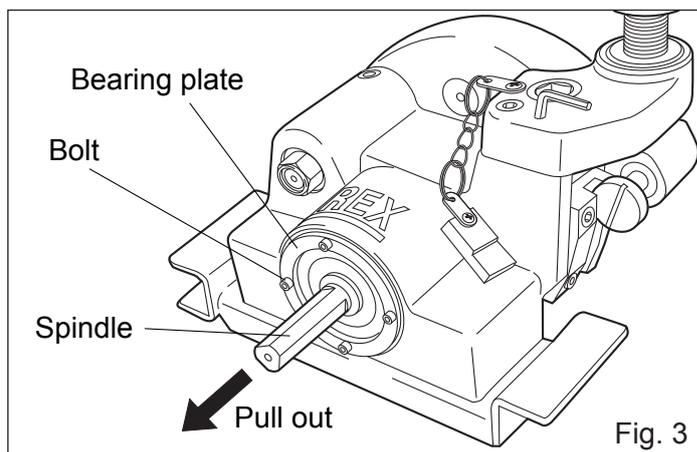

Fig. 3
- 1) Remove the bearing plate by loosening the bolts. (Fig. 3)